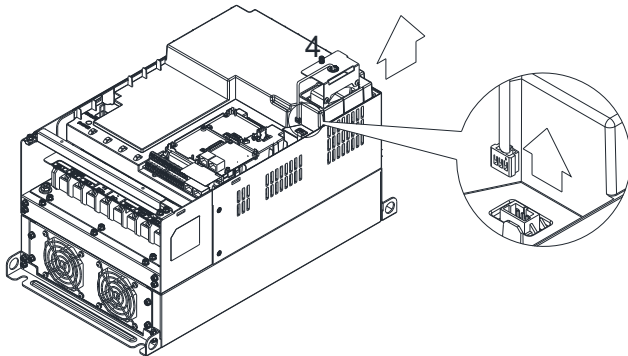

Figure 3
- Loosen screw 4 (figure 3) and disconnect fan power and pull out the fan. (As shown in the enlarged picture 3) Screw 4 Torque: 10~12 kg-cm / [8.7~10.4 lb-in.] / [1.0~1.2 Nm]